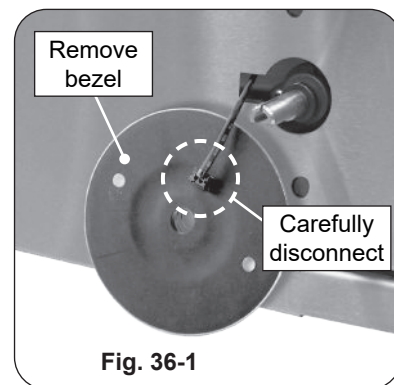

Fig. 36-1
4. Slowly lift away the lighted bezels to clear the valve stems, and carefully disconnect the wires found on the back of the bezels (use your fingernail). See Fig. 36-1.
7. Disconnect the main wire harness connection (Fig. 36-1, **A**) and the igniter wires (Fig. 36-1, **B**). It is recommended to temporarily label the wires for reference when reconnecting. See Fig. 36-1. When disconnecting, be sure to pull from the connectors, and not the wires.